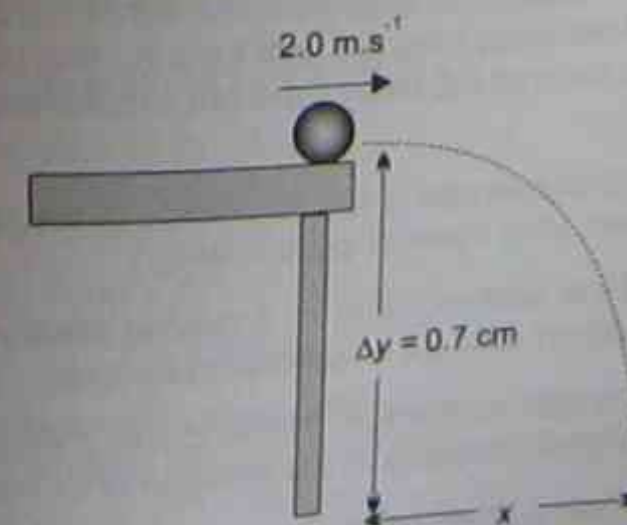

Figure 8.2
- See Figure 8.2. Dividing the motion into its two components, we have: